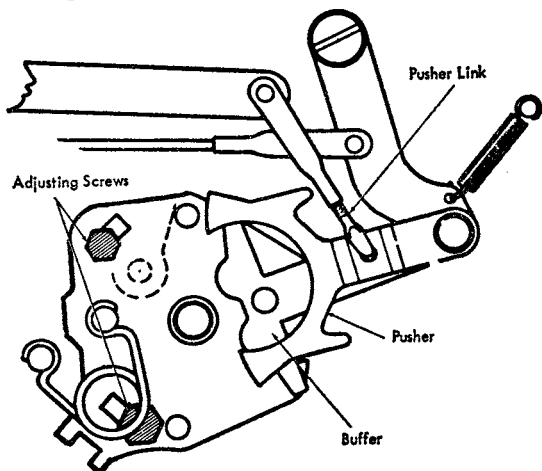

Figure 33. Pin Clearance Adjustments
**5. EQUAL PIN-CLEARANCE.** Loosen the adjusting screws and position the shift-pin toggle-plate so that the clearance between the upper and lower pins and their respective pusher arms are equal (Figure 33).